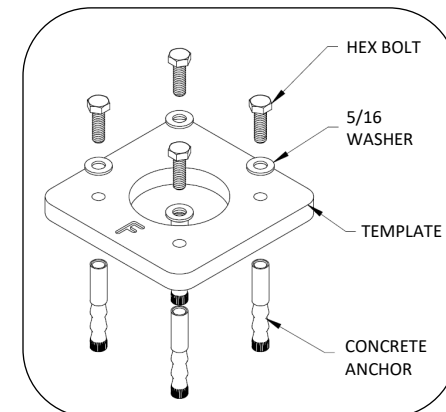

Fig. 5 – Assembly template and anchors
5. Attach anchors to wooden anchor template as shown in Fig. 5.